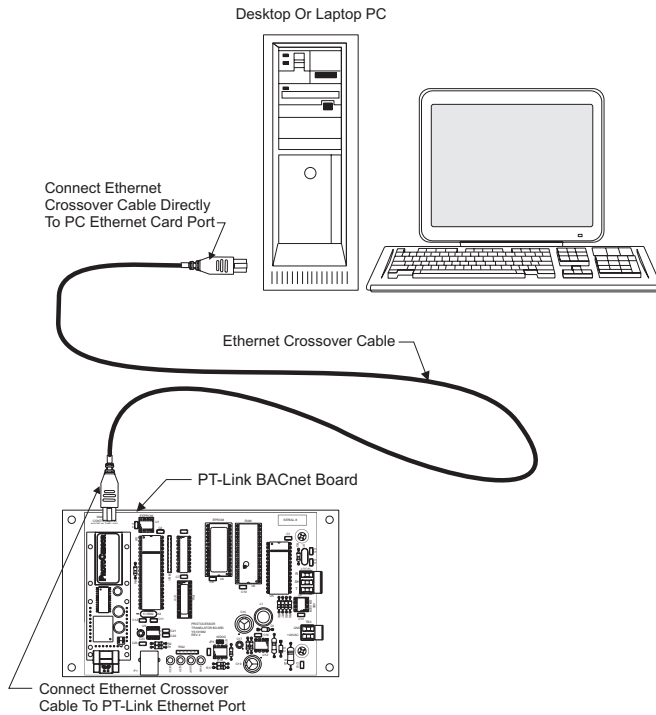

Figure 3: Connecting With Crossover Cable
- 1.) You may connect the PT-Link directly to your PC by using a crossover cable (by others) as shown. See **Figure 3** for details.